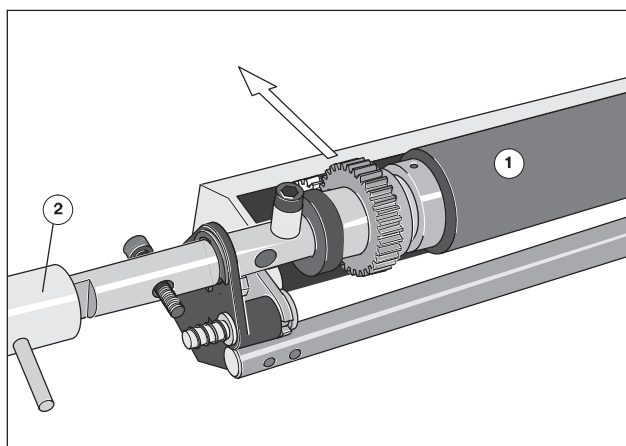

Fig. 59 Blanket washup device, O.S.
7. Firmly hold roller body (Fig. 59/1) and completely pull out shaft towards O.S. with the handle of the washup device (Fig. 59/2).